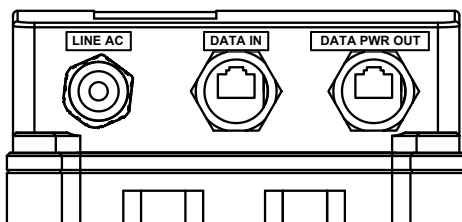

Fig 2
2. Attach the Ethernet cable to DATA IN. See Fig 2